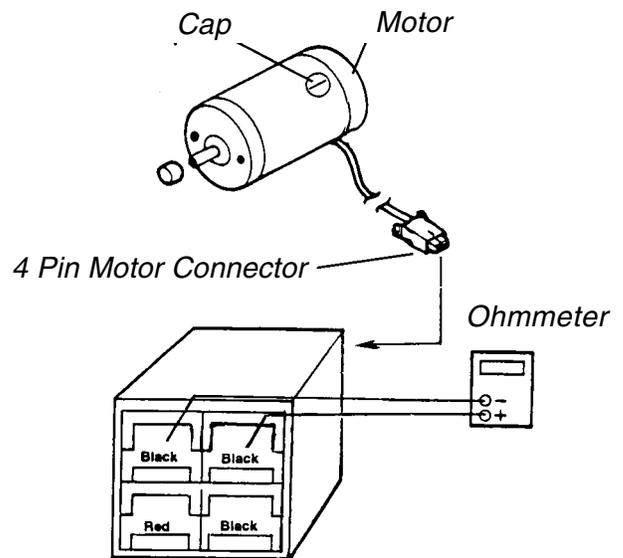

FIGURE 5 - ELECTRO-MECHANICAL PARKING BRAKE TESTING
**ELECTRO-MECHANICAL PARKING BRAKE TESTING (FIGURE 5)**
3. Measure the resistance between the two (2) brake contacts. A normal reading is 100 ohms ( $\Omega$ ). A reading of 0 ohms ( $\Omega$ ) or a very high reading; i.e., MEG ohms or O.L. (out of limit) indicates a shorted brake or an open connection respectively. If either condition exists, send the motor to Invacare Technical Service for inspection/repair.